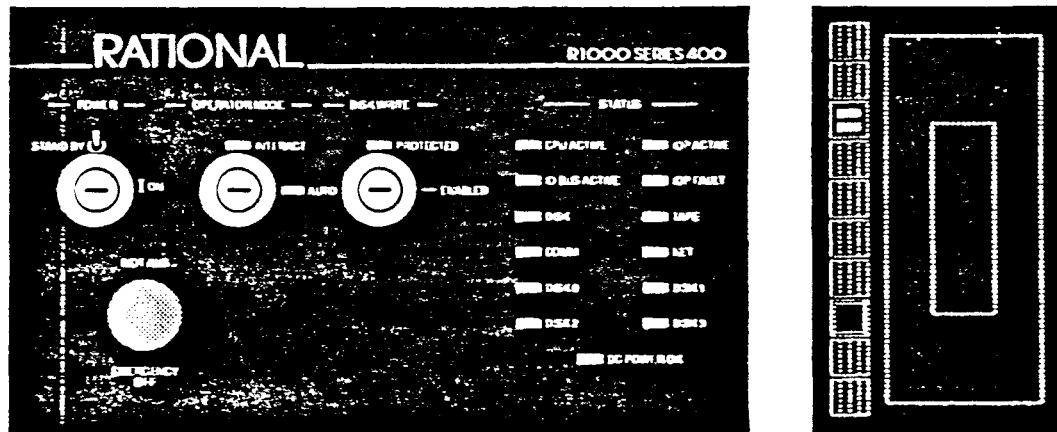

Figure 1.6 - System Control Panel with Exabyte
- ☐ 2. Verify the power keyswitch is in the *Standby* position, disk write keyswitch is *Protected* and the operator mode is in *Auto* position at the main system control panel. (Refer to Figure 1.6 for keyswitches and status indicators).